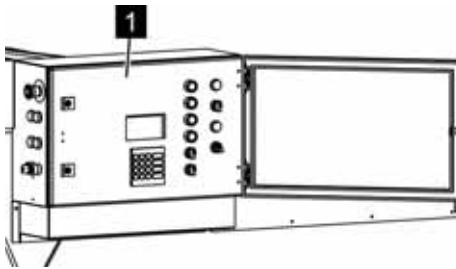

Fig. 152: Closing the door
4. ➔ Close the door (Fig. 152/1) of the bottom control and lock it with the included double bit key.